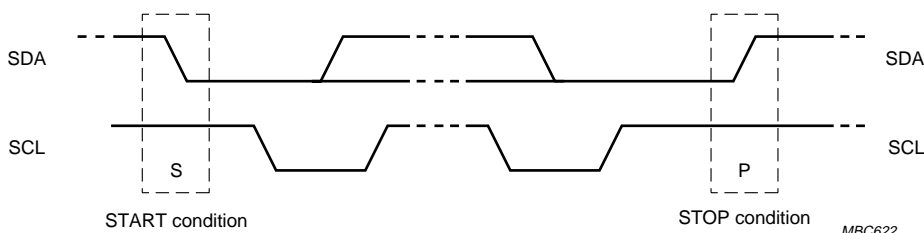

Fig.18 START and STOP conditions on the I2C-bus.
Both data and clock line will remain HIGH when the bus is not busy. A HIGH-to-LOW transition of the data line, while the clock is HIGH, is defined as a start condition (S). A LOW-to-HIGH transition of the data line while the clock is HIGH is defined as a stop condition (P); (see Fig.18).